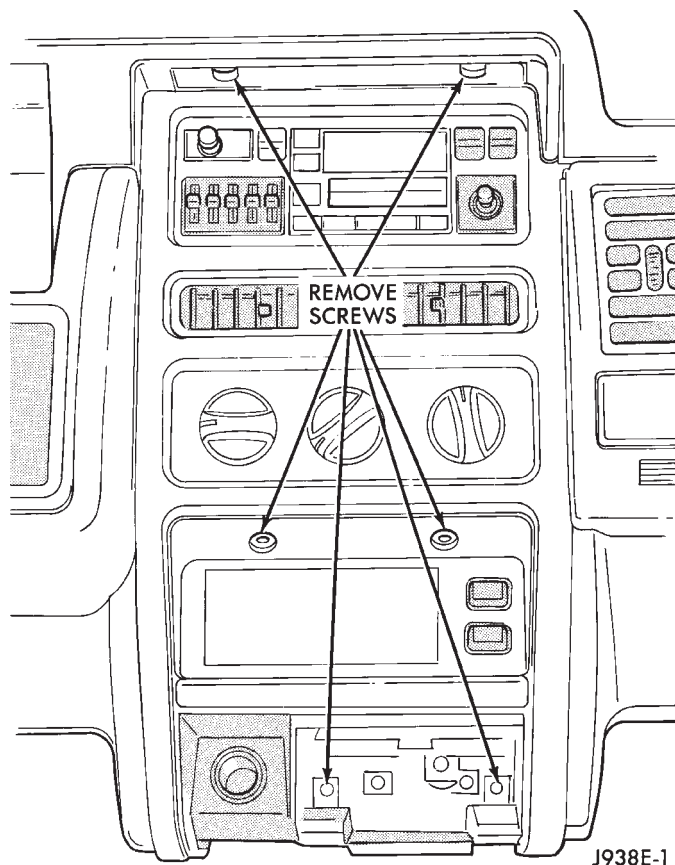

Fig. 1 Remove Center Bezel Retaining Screws
- (1) Disconnect the negative cable from the battery.
- (2) Remove ash tray.
- (3) Remove screws holding center cluster bezel (Fig. 1).